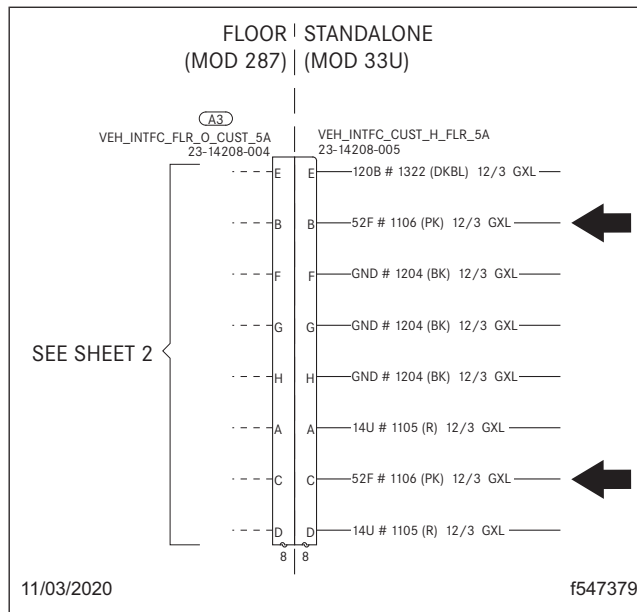

Fig. 2, Location of Pins B and C
- Note that pins B and C of the 8 pin connector (See Fig. 2 from schematic G66-07101-001) are supplied with circuit 52F. Also note that pins B and C of the schematic are the same as pins 2 and 3 of the 8 pin connector noted in Fig. 1. These two locations will be updated to include constant uninterrupted 12 volt during cranking.